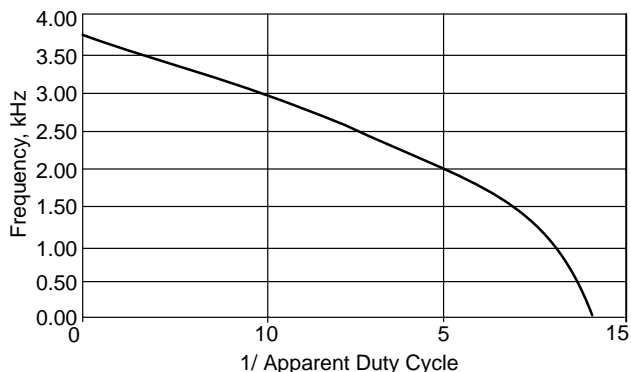

Figure 15. Normalized Input Filter Capacitor Ripple Current
- Calculate Input Filter Capacitor Ripple Current. Use the chart in Figure 15 to calculate the normalized ripple current ( $K_{\text{RMS}}$ ) based on the reciprocal of Apparent Duty Cycle. Then multiply the input current by  $K_{\text{RMS}}$  to obtain the Input Filter Capacitor Ripple Current.